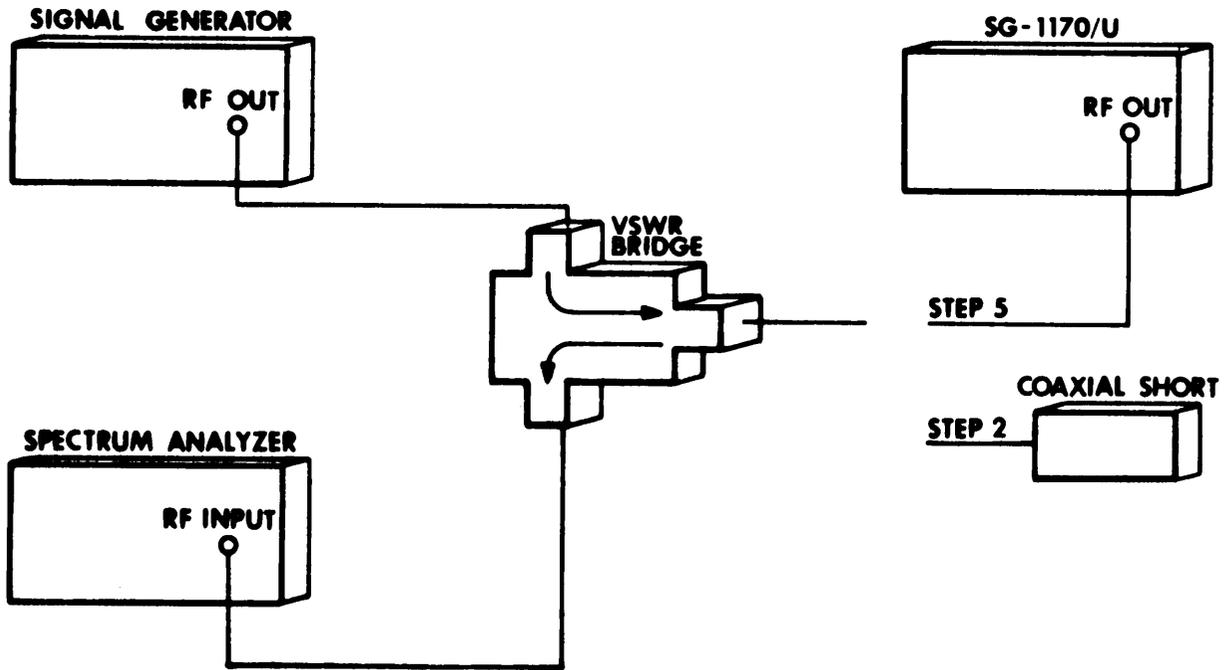

Figure 4-5. Set-up for Impedance Test
2. Use the setup in Figure 4-5. Connect the signal generator to the input port, the spectrum analyzer to the reflected output port and the coaxial short to the device-under-test port of the VSWR bridge.